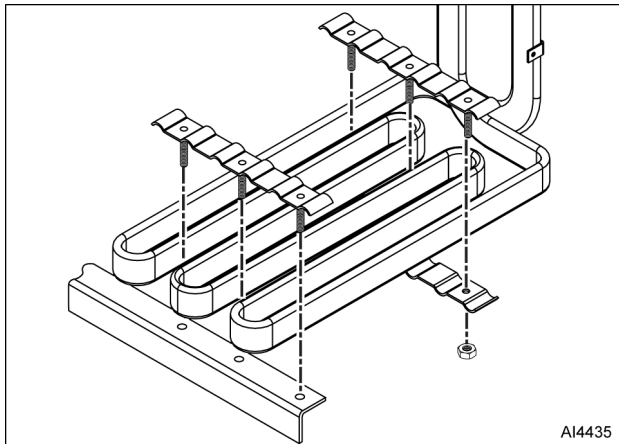

Fig. 15
6. Remove nuts and clamps (Fig. 15) from element assembly.